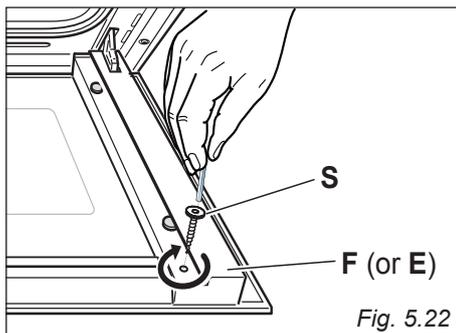

Fig. 5.22
- Refit the hex screw "S" on left "E" or right "F" slide guide, above the top edge of the inner glass (fig. 5.22).